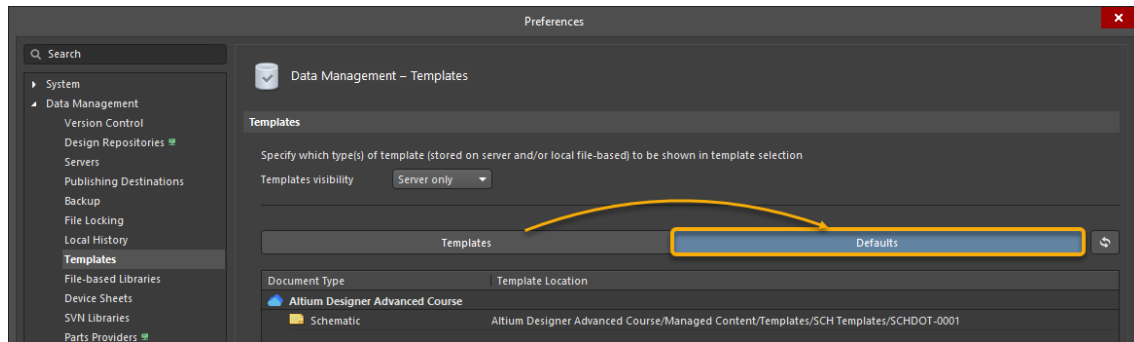

Figure 3. Default documents
8. Change the view from *Templates* to *Defaults*, Figure 3. The *Defaults* defines the templates that are used when creating a new document, for example, a new Schematic.